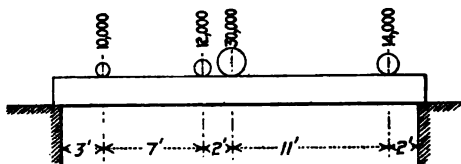

FIG. 5.
1. Given a beam 25 ft. in length, and weighing 150 lb. per ft., with weights distributed as shown in sketch (Fig. 5); find graphically the amount and location of the greatest bending moment. Also show graphically the shear. Find both analytically.